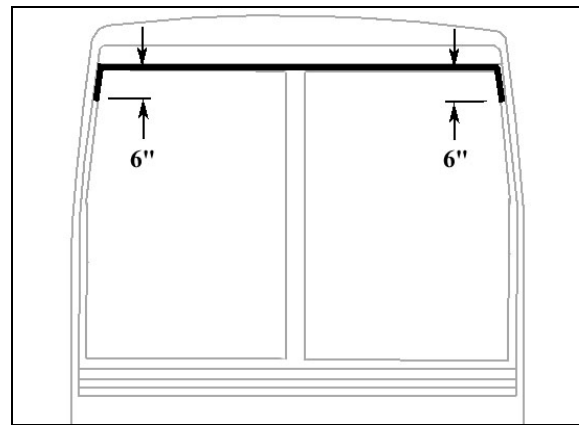

FIGURE 56: APPLICATION OF SIKA 221 BLACK
- At the top of windshield, clean surface between fiberglass and rubber extrusion using Sika 205 (Fig. 56).